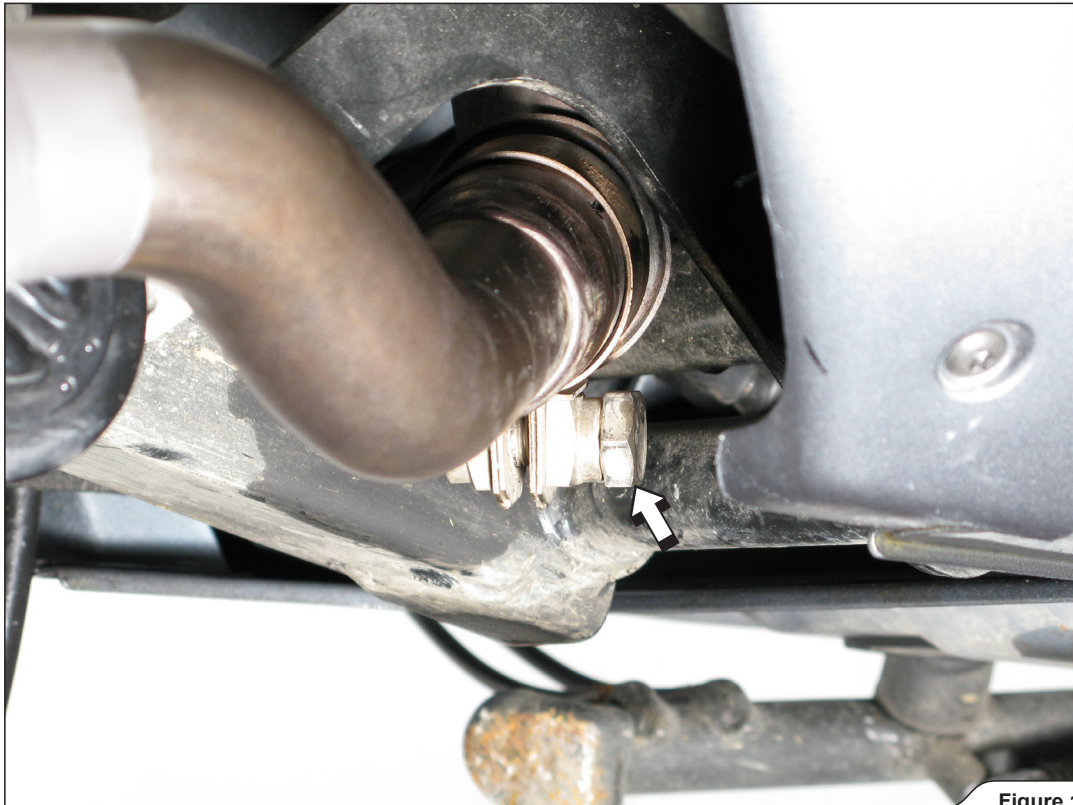

Figure 1
2. Untighten the marked link pipe clamp, unscrew the marked muffler bracket bolts and remove the stock muffler off the scooter (Figure 1, 2).